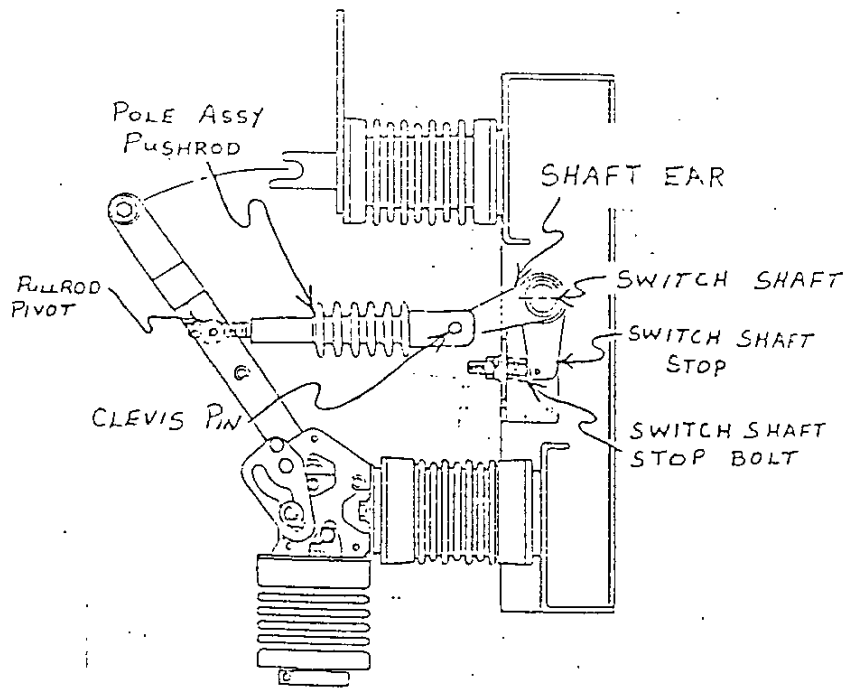

FIGURE 15
7. Adjust one pole assembly pullrod #6 until approximately three (3) threads extend through the pullrod pivot #7. Figure 15.
10. Adjust the two remaining assembly pullrods #6 until holes in pullrods line up with holes in shaft cranks #4. Figure 15.
15. With interrupter "open", set distance between switch shaft stop #2 and switch shaft stop bolt #3 to approximately .06". Figure 15.